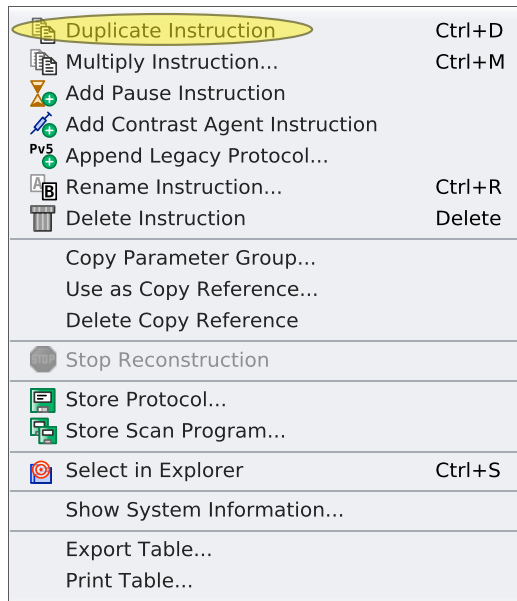

Figure 1.6: Context Menu Examination Card
2. Open the context menu (see [Figure 1.6 \[p 33\]](#)) and invoke **Duplicate Instruction** or type <Ctrl>+<D> on the keyboard.